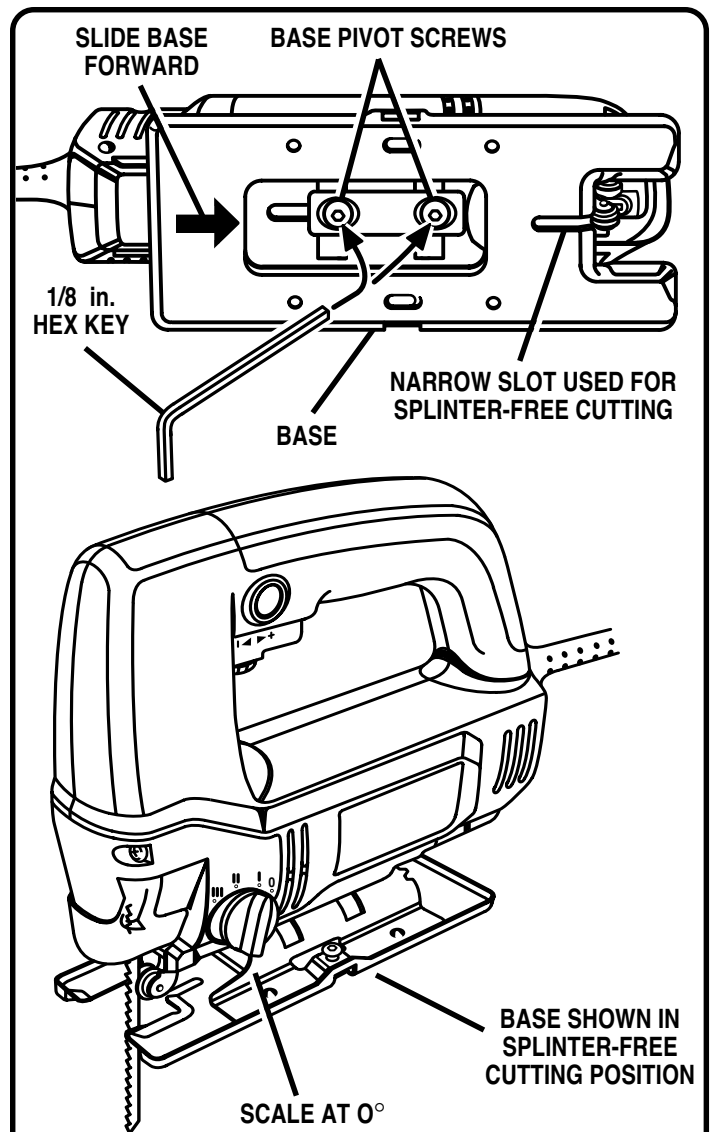

Fig. 11
See Figure 11.
- Using the 1/8 in. hex key provided, loosen base pivot screws and slide base forward. See Figure 11.